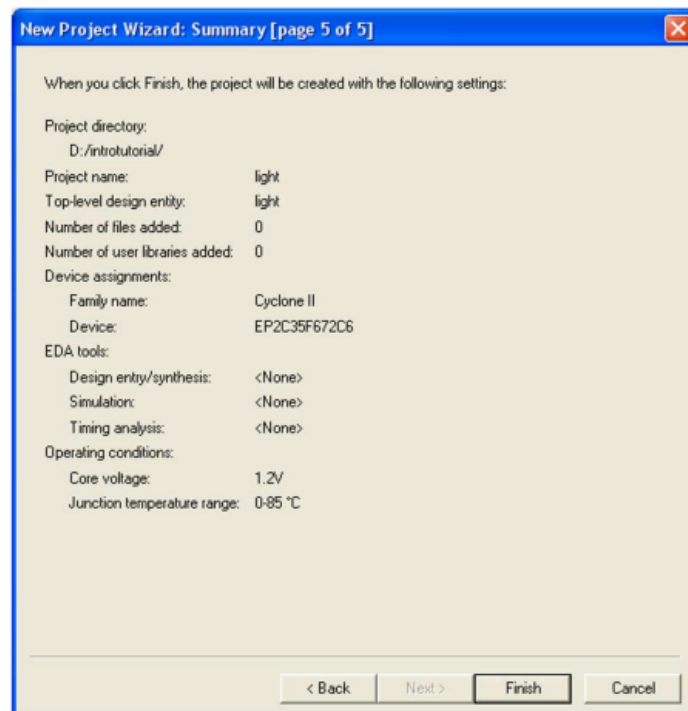

Figure 5: Summary of the project settings.
7. A summary of the chosen settings appears in the screen shown in Figure 5. **Press Finish**.